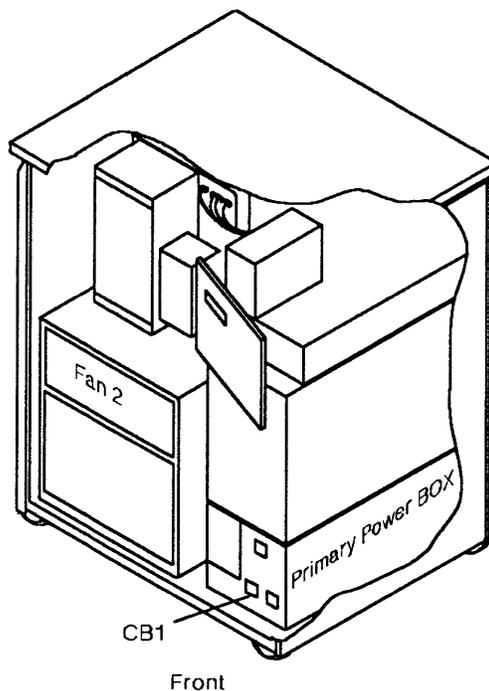

Figure 4-68. Fan 2 and CB1 Locations
4. **Switch CB1 OFF.** Refer to Figure 4-68.
5. Locate Fan 2. Refer to Figure 4-68.